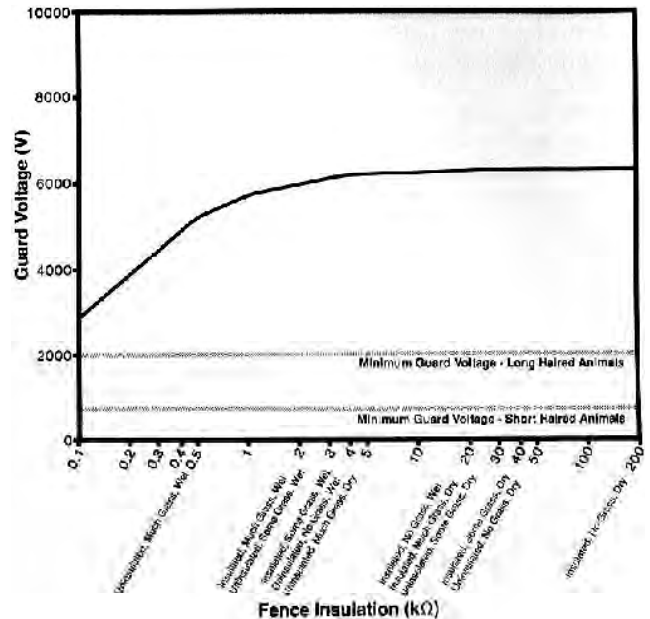

FIGURE 7. Guard Voltage for a 3.3 mi (5.4 km) Single Wire Fence.
**Shock Delivery:** FIGURES 7 and 8 show guard voltage outputs of the BEE 8088 for 3.3 and 10 mi (5.4 and 16 km) lengths of single wire fence over a range of insulation resistances.
On a 3.3 mi (5.4 km) fence (FIGURE 7), guard voltage output varied from 6360 V for a well-insulated, grass-free, dry fence to 2810 V for an uninsulated wet fence with considerable grass touching the charged wire.
As can be seen from FIGURES 7 and 8, plant growth touching a fence did not appreciably affect shock delivery, since the voltage output was above 2000 V for all fence conditions. The BEE 8088 can be expected to deliver shocks over a wide range of fence conditions.